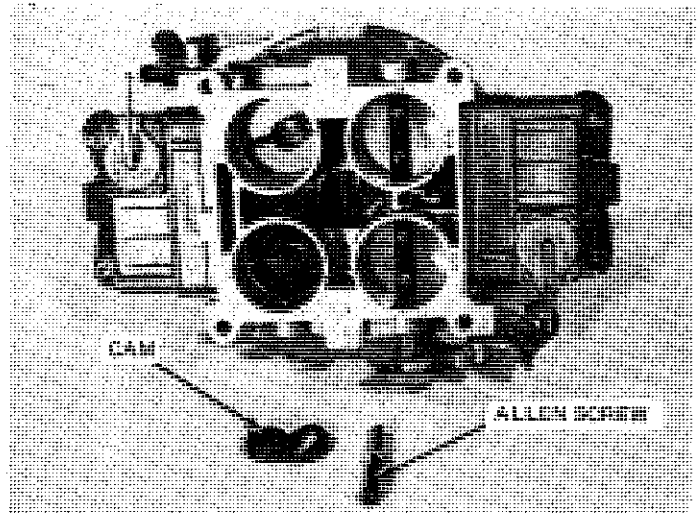

Fig. 4
4. Remove the linkage cam using a pair of needle nose pliers. (See Fig. 4)